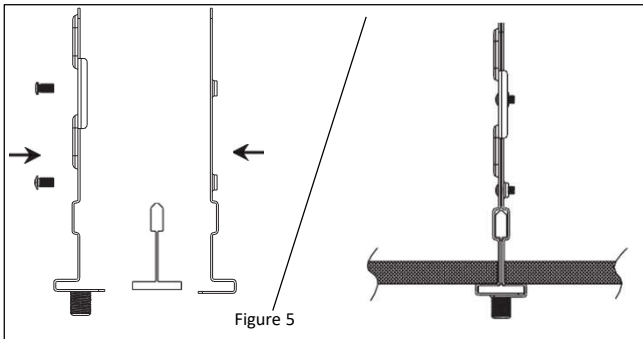

Figure 5
1. Attach T-grid clips onto the T-grid using the supplied screws. 2 sets of T-grid clips are required for a 4' fixture. **See Figure 5.**